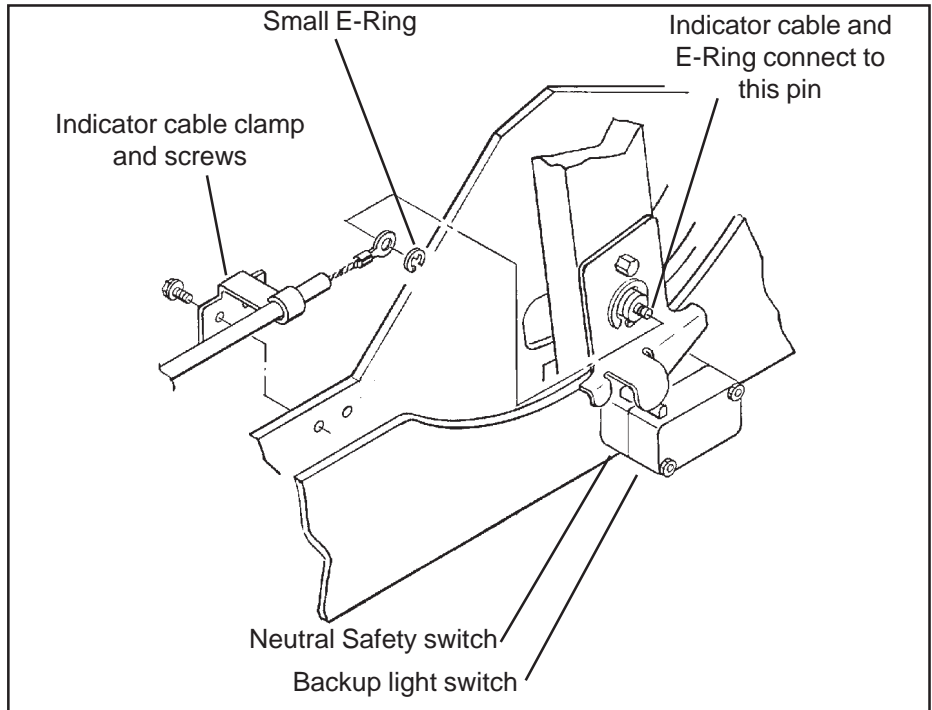

Figure 2
STEP 6. Check the operation of the neutral safety switch and the backup light switch (See Figure 2). You can
light wires to the **OUTER** switch (See **Figure 2**). Tape the terminal connections to prevent shorts. Reconnect the battery ground cable, disconnect the coil wire and set the parking brake. Check the switch operation by attempting to start the motor in each shifter position. **The starter must crank only when shifter is in the Park or Neutral position.** Check the backup light operation when the shifter is shifted to the Reverse position. Adjust the switches if
safety switch wires on the shifter. Disconnect the battery ground cable before wiring the backup light switch. Locate the original backup light switch on the steering column or console shifter. Run these wires to the top switch on the **B&M Sport Shifter (See Figure 2)**. Reconnect the ground wire and check the light for proper operation. Adjust the switches on the shifter if required.